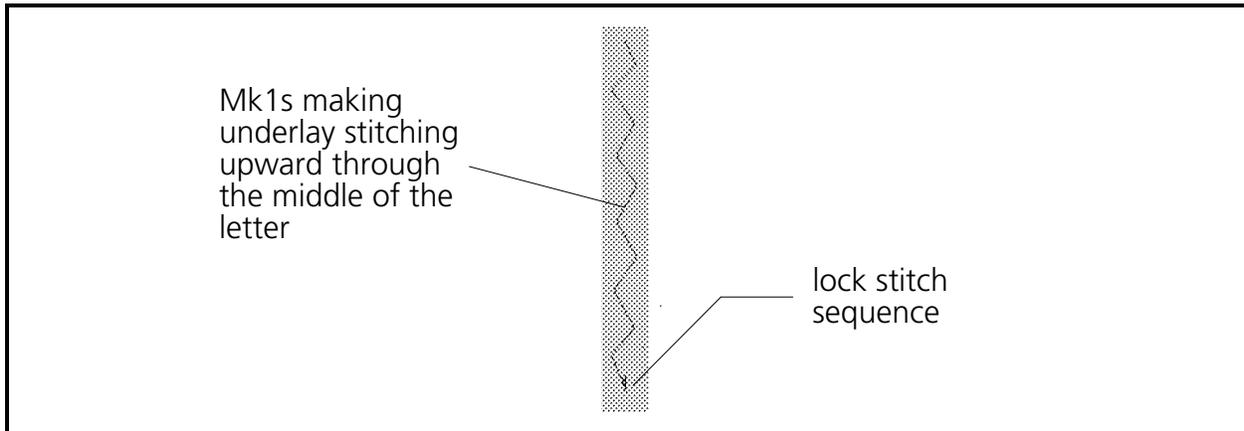

Figure 3-20
1. From the information previously learned, perform a needle up, go to the bottom portion of the letter **I**, and then put the needle back to normal stitch (see Figure 3-20).
3. Next, lay down a running stitch underlay in a slight zig zag pattern up the length of the letter **I** by entering Mk1s before we begin our column stitching (see Figure 3-20).